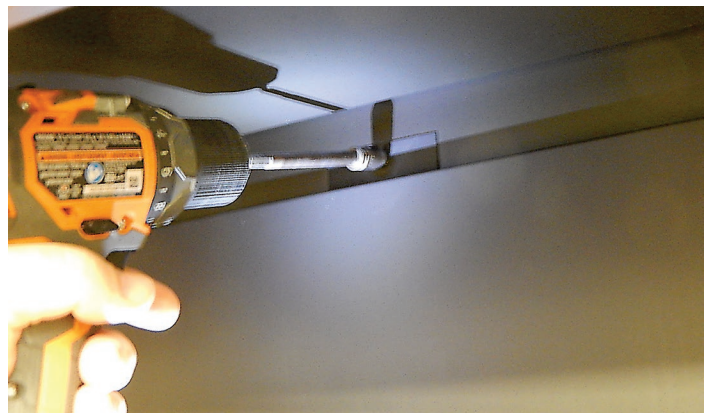

Figure 3
6. Remove the Rear Liner Panel. **See Figure 3.** Remove (2) 5/16" X 1/2" Hex screws at the top of the rear panel. To remove panel, pull the top forward slightly, then lift up to release the panel, and set aside.